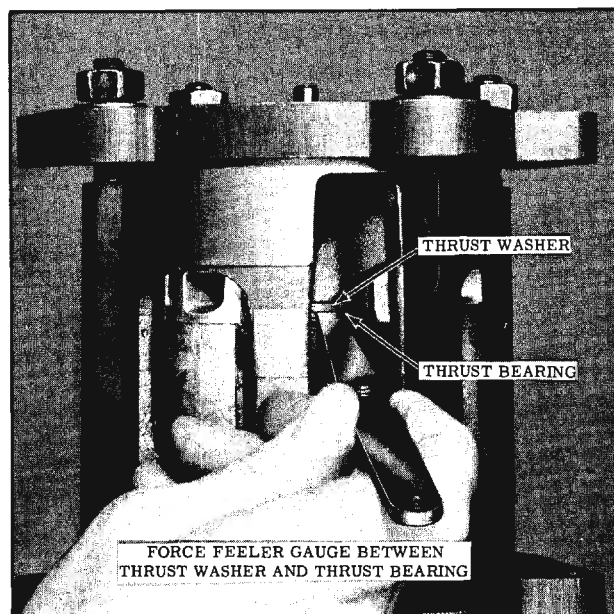

Fig. 15-77 Checking Drive Shaft End Play Clearance
13. To determine the clearance between the rear thrust bearing and the upper or outer-rear thrust race, use a combination of feeler gauge leaves to get a FORCED FIT between these two parts. (Fig. 15-77)